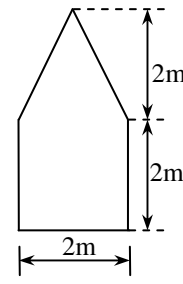

figure 6 [Q-4(a), Q-4(b)]
- Q.4** (a) Find out centroid of the section shown in **figure 6**. **03**
(b) Determine the moment of inertia of the section shown in **figure 6** about an axis passing through centroid and parallel to the base. **04**